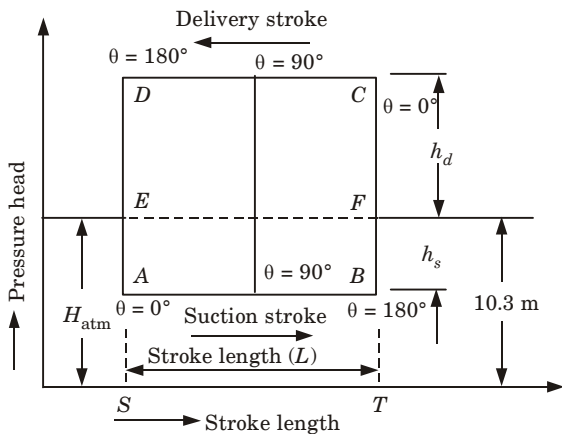

Fig. 5.28.1. Ideal indicator diagram.
- As shown in Fig. 5.28.1, different notations are taken as
1. From the indicator diagram (Refer Fig. 5.28.1), area of diagram is given as,